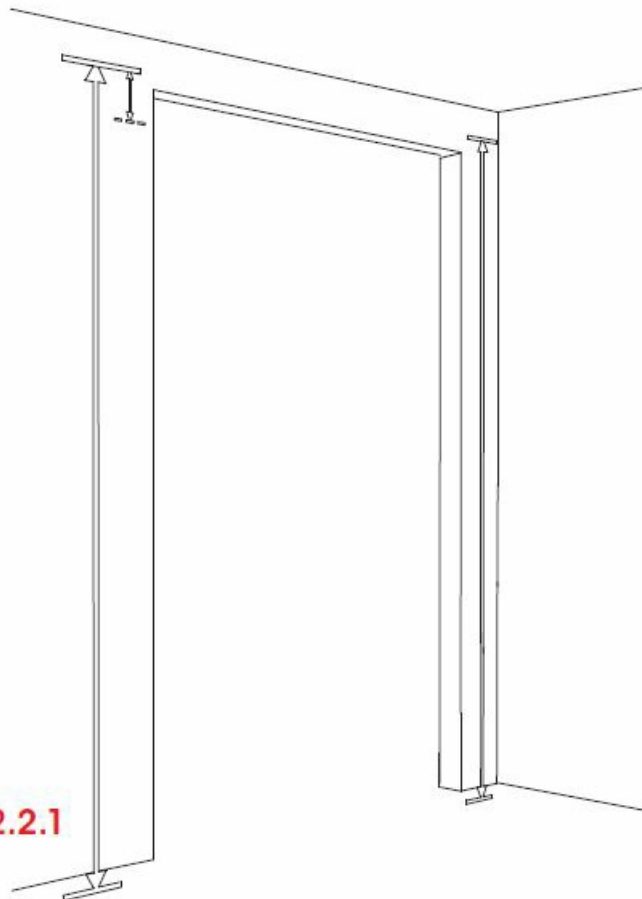

Fig: 2.2.1
- Using a laser level or water level, mark the position on the wall for the centre of the axle (Fig 2.2.1).
- Position onto the brackets as per fig 2.2.1 and 2.2.2 using measurement E from the dimension table, slide the axle through and fit shaft collars M . When satisfied the shaft collars can be tack welded in place.